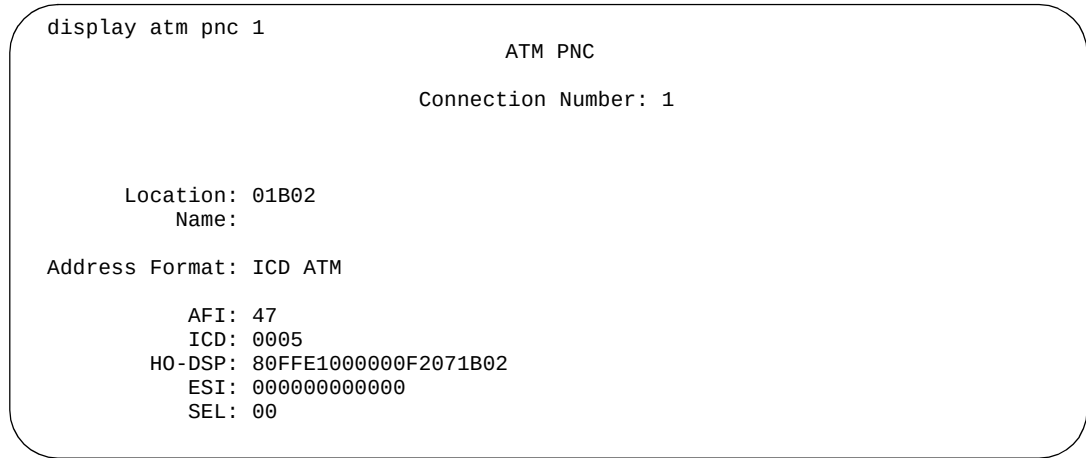
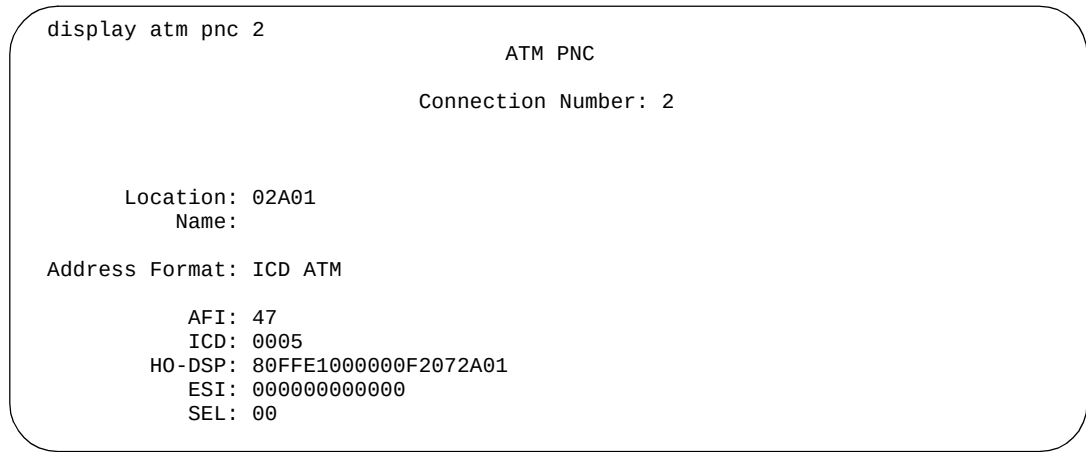

Figure 1-37. Screen output for display atm pnc 1
Figure 1-38. Screen output for display atm pnc 2
- If the port networks are addressed using *hard coded PNNI routes* in the A500, the display looks like Figure 1-37 (pnc 1) and Figure 1-38 (pnc 2).